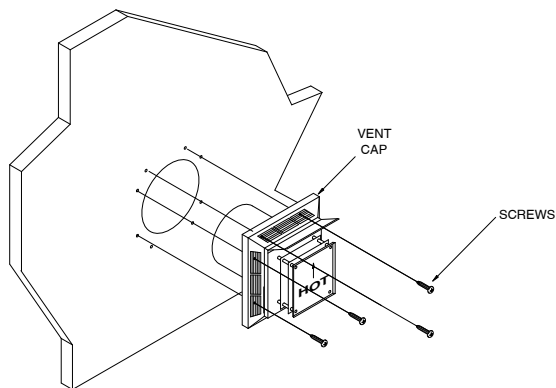

Figure 13 - Installing Horizontal Vent Cap (Noncombustible)
6. **Noncombustible Exterior Wall:** Position the horizontal vent cap in the center of the 8 1/2" round hole and attach to the exterior wall with four wood screws provided. Before attaching the vent cap to exterior wall, run a bead of non-hardening mastic (pliable sealant) around the outside edges to make a seal between it and the outside wall. **Note:** The four wood screws provided should be replaced with appropriate fasteners for stucco, brick, concrete, or other types of sidings. (See **Figure 13**).